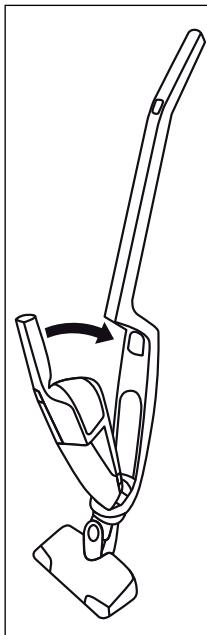
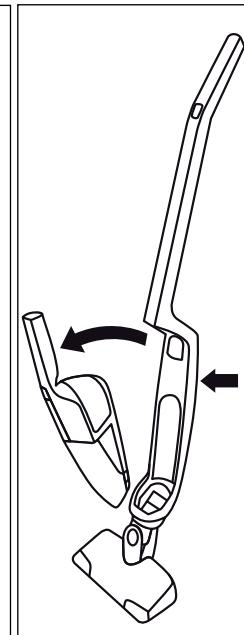

Fig. 1
Fig. 2
- To connect the hand element ④ to the handle, push the tip of the hand element ④ into the opening in the hand element recess ⑬.
- Then press the grip ① of the hand element ④ into the handle so that the hand element ④ clicks firmly into position (Fig. 1).
- To remove the hand element ④ from the handle, press the "Hand element" release ⑫.
- Then pull the hand element ④ upwards and forwards out of the hand element recess ⑬ (Fig. 2).